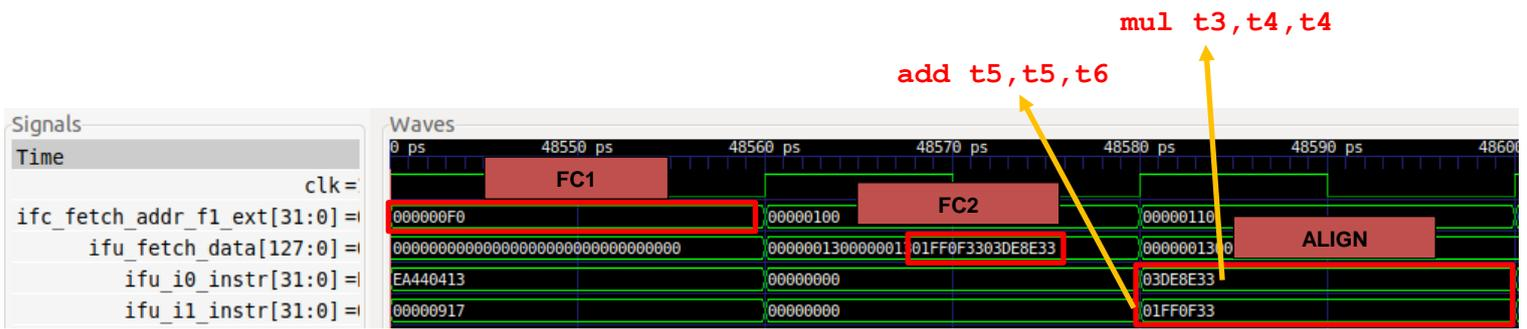
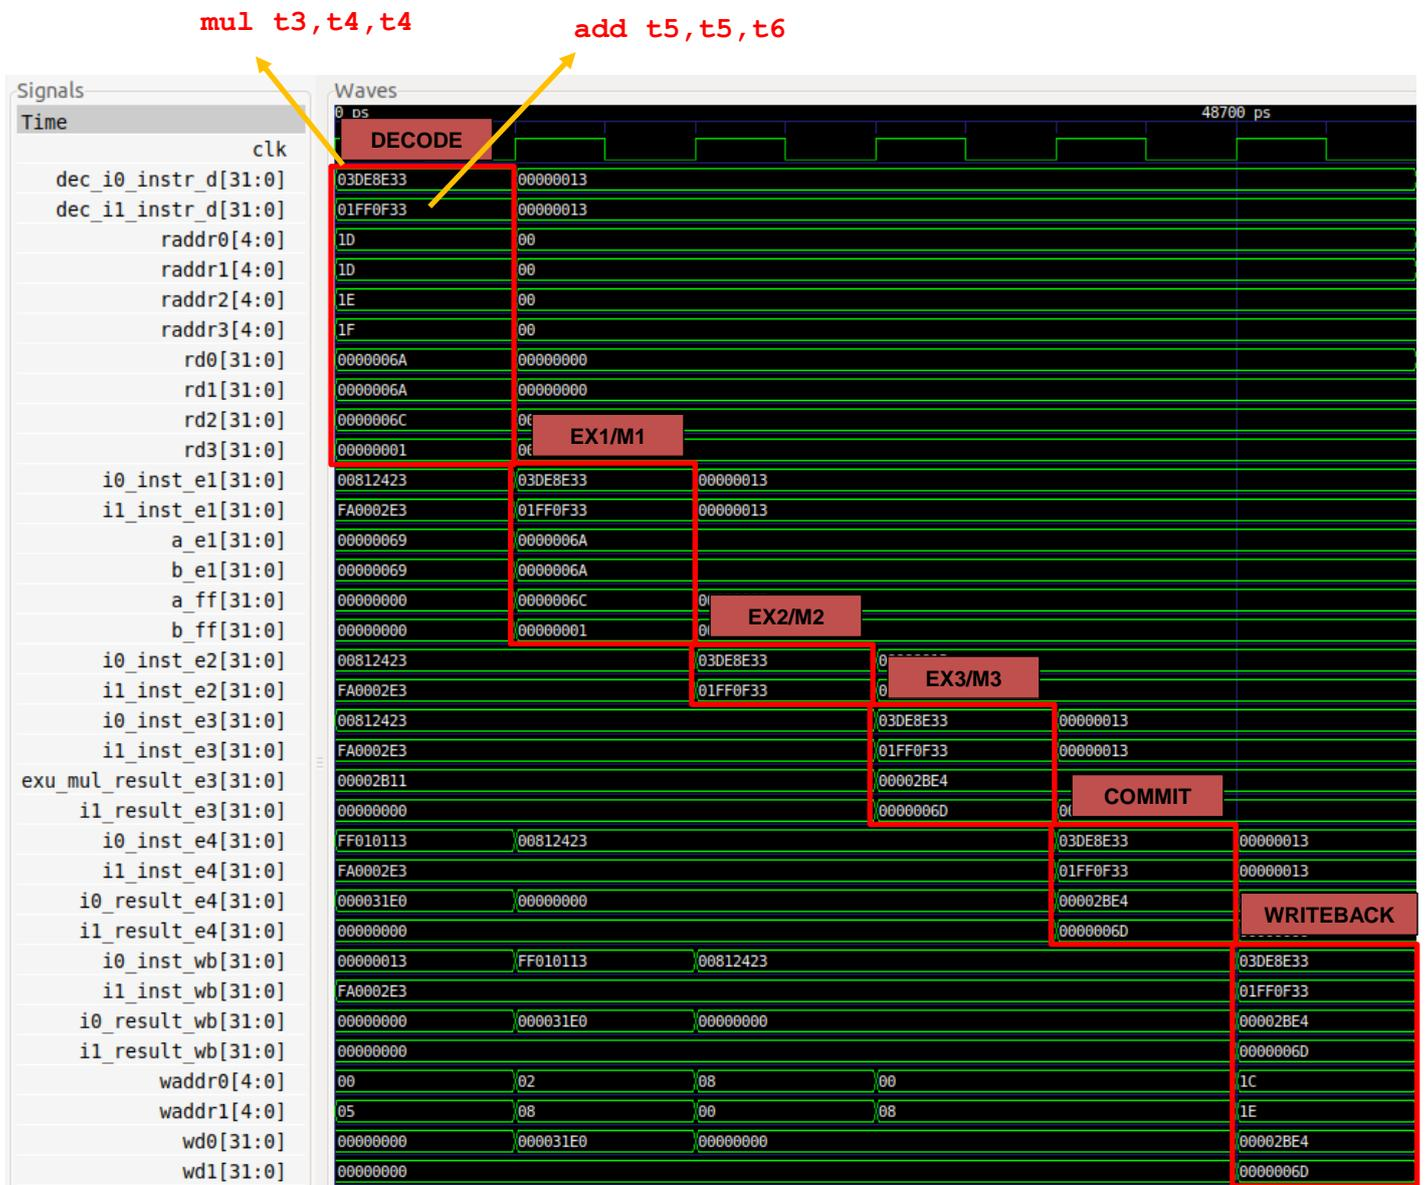

Figure 11. Simulation of the first three pipeline stages: FC1, FC2 and Align
Figure 12. Simulation of the final stages: Decode, EX1/M1, EX2/M2, EX3/M3, Commit, Writeback
Figure 11 and 12 show Verilator waveforms of the processor signals while executing the program from Figure 10. Figure 11 shows the signals from the first three pipeline stages (FC1, FC2, and Align – see Figure 3). Figure 12 shows the signals from the remaining stages (see Figure 4). We split the results in two figures for the sake of consistency with Figure 3 and Figure 4, but remember that these two instructions go from the Align stage (on the right of Figure 11) to the Decode stage (on the left of Figure 12).
TASK: Replicate the simulation from Figure 11 and Figure 12 on your own computer by following these steps (as described in detail in Section 7 of the GSG):
- Use files *test_1.tcl* and *test_2.tcl* (provided at `[RVfpgaPath]/RVfpga/Labs/Lab11/ExampleProgram`) for opening the same signals as the ones shown in Figure 11 and Figure 12. For that purpose, on GTKWave, click on *File* → *Read Tcl Script File* and select the *test_1.tcl* or *test_2.tcl* file.
Analyse the waveform from Figure 11 and Figure 12 and the diagrams from Figure 3 and Figure 4 at the same time. The figures include some signals associated with each of the pipeline stages. The values highlighted in red correspond to the two instructions (*mul* and *add*) as they flow through the pipeline.
- **FC1:** In the first cycle of Figure 11, signal *ifc_fetch_addr_f1_ext[31:0]* (the Program Counter, which is provided to the Instruction Memory) contains the address of (i.e., *points to*) the *mul* instruction (*ifc_fetch_addr_f1_ext* = 0x000000F0).
- **FC2:** In the second cycle of Figure 11, the Instruction Memory provides a new 128-bit signal that includes the two instructions that we are analysing in the example (*mul* is shown in green and *add* is shown in red):
- **Align:** In the final cycle of Figure 11, the two instructions are extracted from the new 128-bit signal and distributed to the two ways that SweRV EH1 includes.
- **Decode:** In the first cycle of Figure 12, the two instructions are decoded – that is, the instructions' register values are read from the Register File, and the control bits are generated (not shown in the figure, but you can add some of them as described in *RVfpga_SweRVref.docx*). The operands (register values) are placed in *rd0*, *rd1*, *rd2*, and *rd3*.
- **EX1/M1, EX2/M2, EX3/M3** and **Commit:** In the next three cycles of Figure 12, the addition and the multiplication are carried out. At the end of EX3/M3 the results are
- **Writeback:** In the final cycle of Figure 12, the results are written back to the Register File.